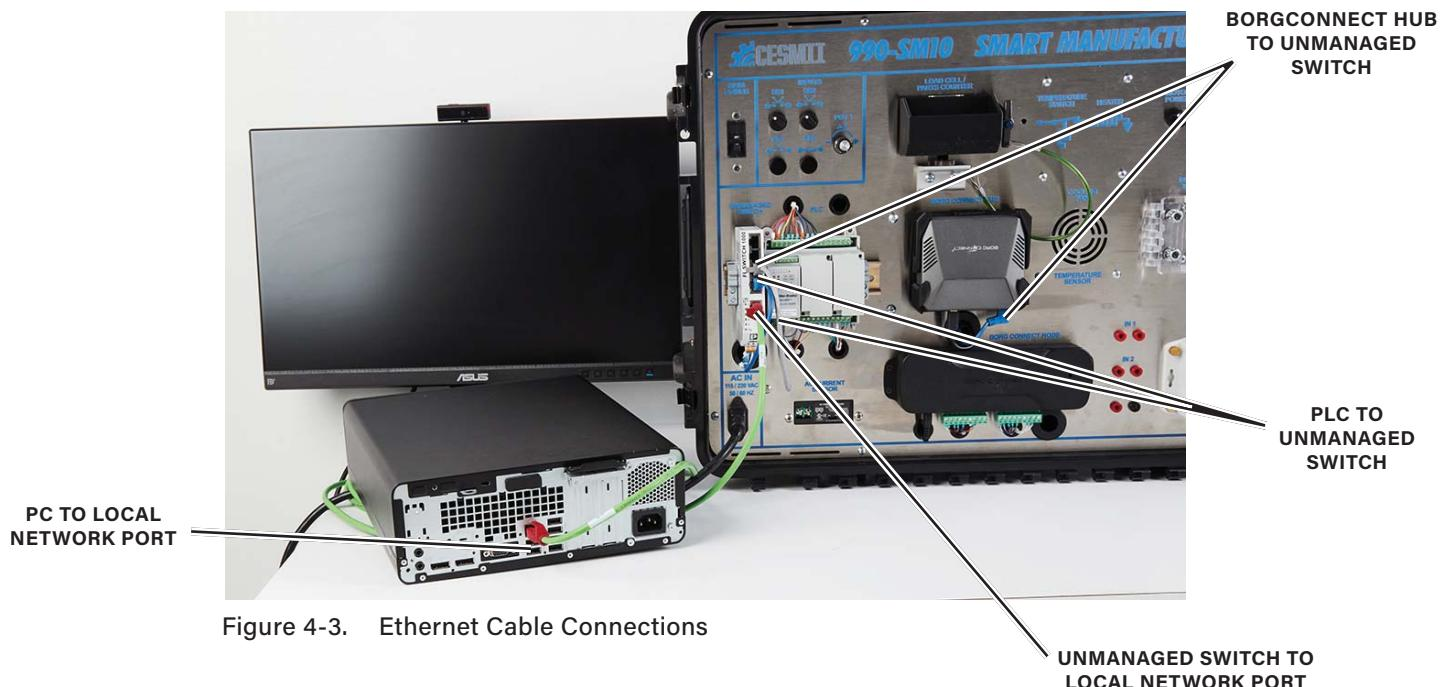

Figure 4-3. Ethernet Cable Connections
- Connect the Ethernet cables between the unmanaged switch, the PLC, and the PC, as shown in figure 4-3.